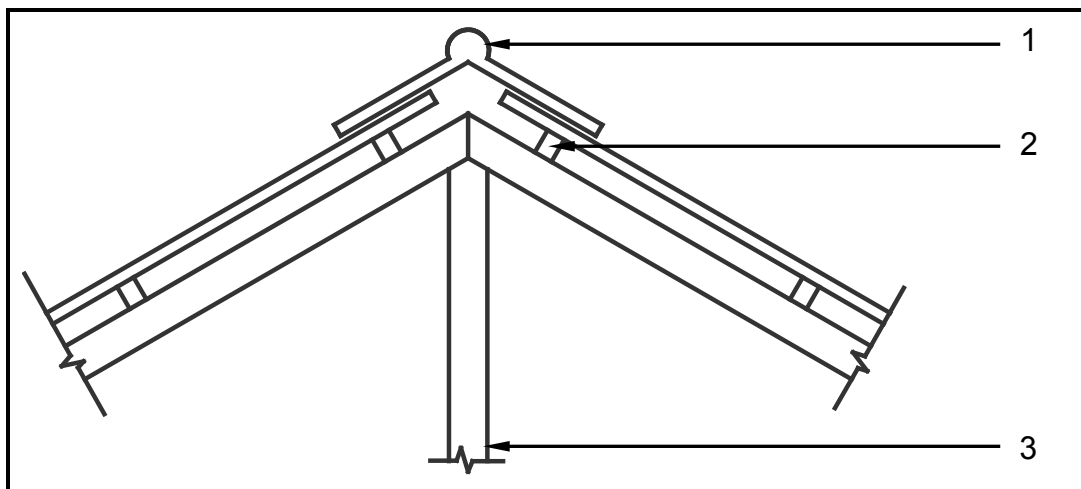

FIGURE 2.9
- 2.9 FIGURE 2.9 below shows the top part of a roof construction. Study the illustration and answer the questions that follow.